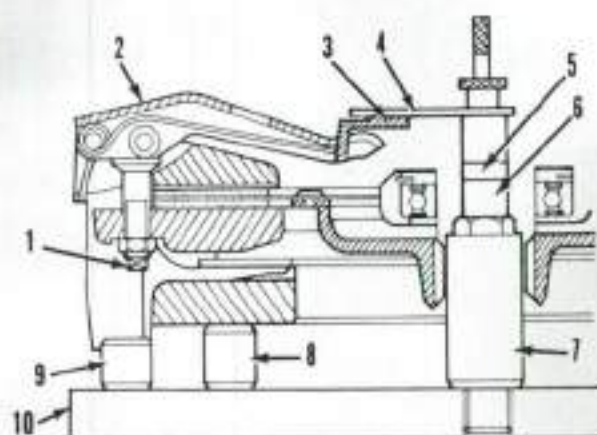

Fig. 170—Adjust height of transmission levers using tools shown. Extra spacer DB1248 (5) is used only on 1594 and 1690 models.
To set height of transmission release levers, first install center post adapter DB 8832/1 (7—Fig. 170) and release lever actuator in base plate. Actuate transmission release levers about a dozen times to make sure all parts are properly seated. Remove actuator and install center post 961845 into adapter. Install Code 4 spacer (6), extra spacer DB 1248 (5) on 1594 and 1690 models and setting gage (4). Adjust each adjuster bolt (1) until setting gage just contacts thrust plate (3) all the way around. Remove gage and spacers, install lever actuator and actuate release levers several times. Reinstall spacers and gage and recheck lever adjustment. Readjust if necessary. Remove gage and spacers.